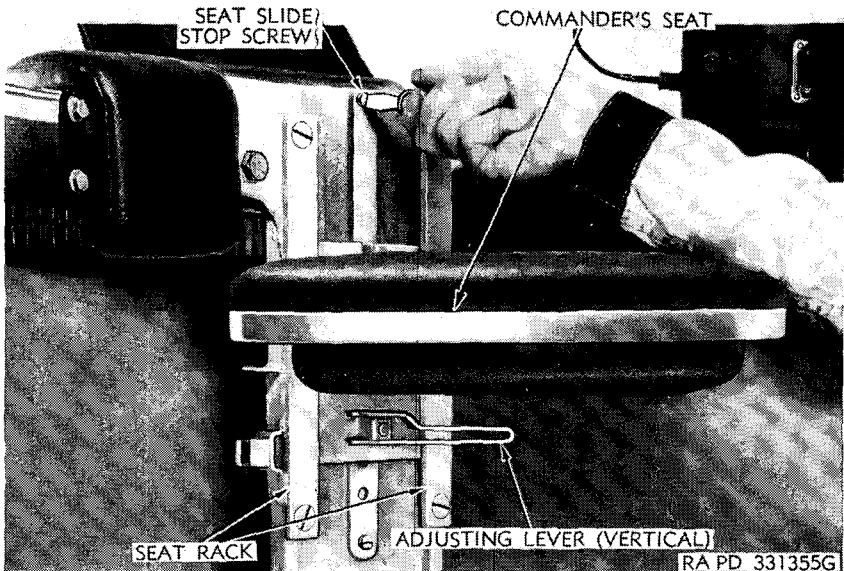

Figure 161. Removing commander's seat.
- (1) To remove the seat assembly, remove the top stop screw in the center of the seat track (fig. 161) and slide out seat assembly.
- (2) To install seat, slide seat into seat track and install top stop screw.